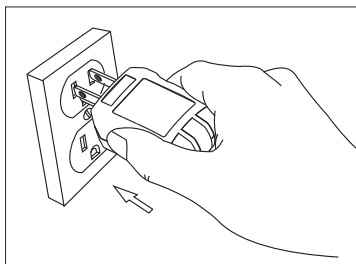

Figure 1
1. Hold and Insert Receptacle Tester into the socket as the arrow indicates, do not move your fingers across the warning line to avoid electric shock, See Figure 1.